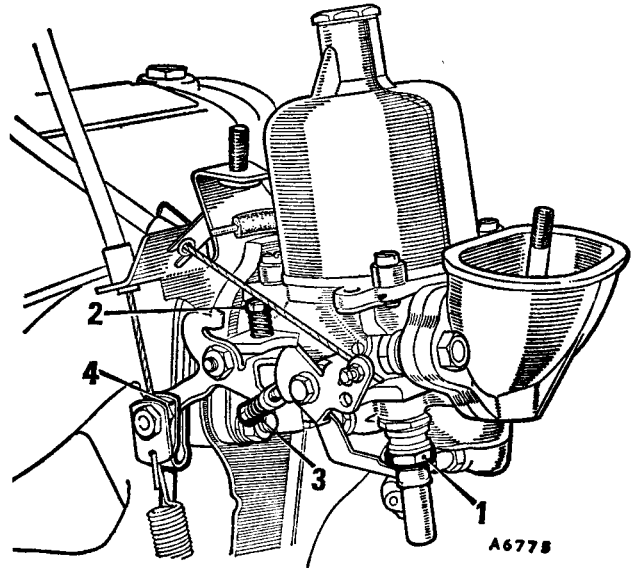

Fig. Da.1
9. With the carburetter correctly tuned, adjust the throttle adjusting screw 2 (Fig. Da.1) until a maximum idling speed of 650 r.p.m. is obtained.
10. Pull out the choke control to the maximum fast idle position. Check, and adjust if necessary, the fast idle adjustment screw 3 (Fig. Da.1), to obtain a maximum fast idle speed of 1,050 r.p.m. Push in the choke control and re-check the idling speed.